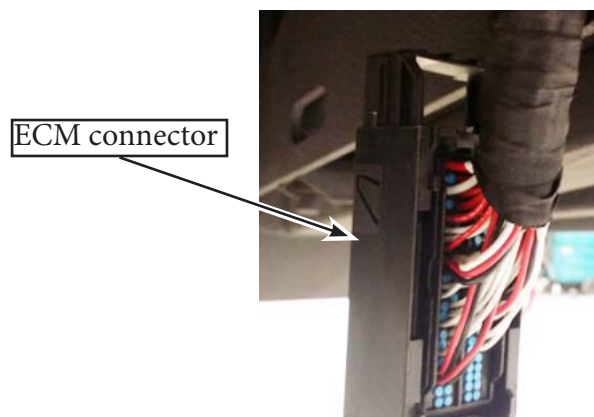

Figure 29 - Front to Back Cable Routing to the ECM Connector
- 2.16. Remove the rear shell of the ECM connector and route the front-to-back cable towards the connector (see Figure 29).